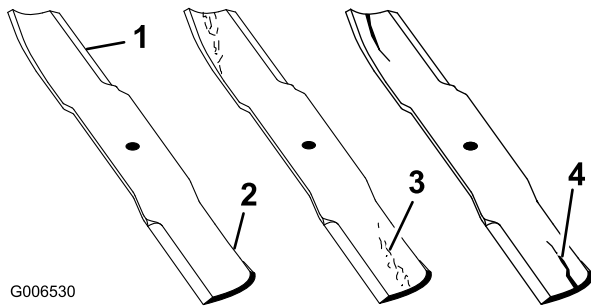

Figure 43
1. Inspect the cutting edges (Figure 43). If the edges are not sharp or have nicks, remove and sharpen the blades; refer to Sharpening the Blades.
2. Inspect the blades, especially the curved area (Figure 43). If you notice any damage, wear, or a slot forming in this area (item 3 in Figure 43), immediately install a new blade.